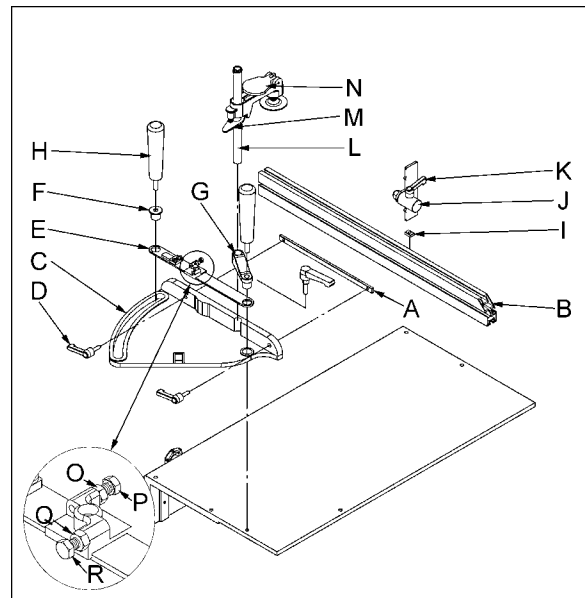

Fig. 21
- **Hardware:** Miter Gauge, Fence, (2) Handles, Stop, Fence Bar, Indicator Bar, Bushing, Bracket Clamp Assembly & (2) Handles
1. Slide the miter gauge fence (B, Fig. 21) into the bar (A, Fig. 21) and attach to the miter gauge body (C, Fig. 21) with two handles (D, Fig. 21). **Note:** the 45° mitered end of the miter gauge fence should be on the side of the blade.
3. Place indicator bar (E, Fig. 21) on top of the miter gauge body and secure in place with bushing (F, Fig. 21), bracket (G, Fig. 21) and handles (H, Fig. 21).
4. Slide the square nut (I, Fig. 21) into the slot on top of the fence. Secure the stop (J, Fig. 21) in place with a handle (K, Fig. 21).
5. Slide clamp bar (L, Fig. 21) into the bracket, and miter gauge. Tighten set screw found in the bracket. Pull up on the quick release (M, Fig. 21) and slide the clamp on to the bar. Position clamp disc against the workpiece and pull the clamp lever (N, Fig. 21) towards you.
6. Use a square to make sure miter gauge is 90° to saw blade. If you need to make an adjustment. Loosen hex nut (O, Fig. 21) found on indicator bar and turn bolt (P, Fig. 21) until it rests against the miter gauge. Tighten the nut. Adjust cursor if necessary.
7. Use a combination square to make sure miter gauge is 45° to the saw blade. If you need to make an adjustment. Loosen hex nut (Q, Fig. 21) found on the indicator bar and turn bolt (R, Fig. 21) until it rests against the miter gauge. Tighten the nut. Adjust cursor if necessary.